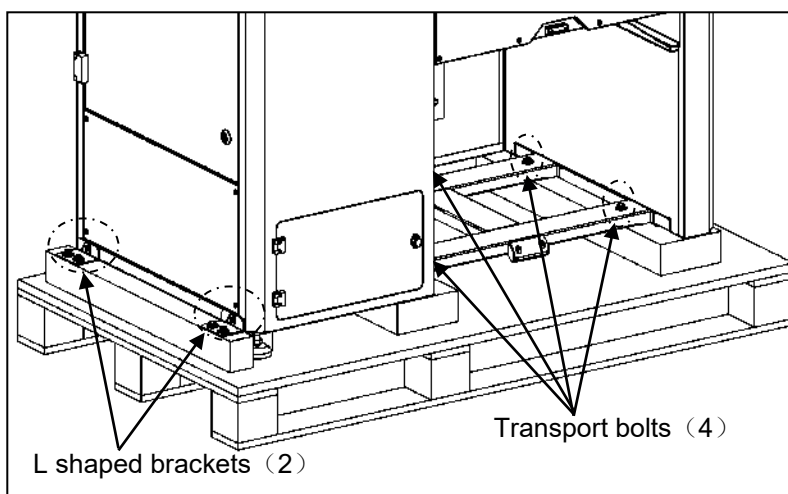

Fig.5
- Remove the two (2) L-shaped securing brackets and the four (4) transport bolts holding the machine to the pallet (G-800Pro refer to **Fig. 5**, G-700Pro is similar).